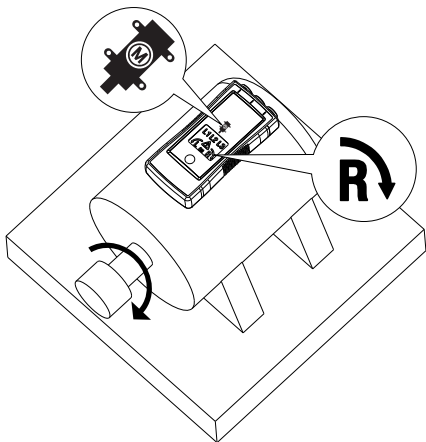

Figure 2: Motor Rotation
2. Position the PRM-6-EUR on the motor so it is parallel to the length of the motor shaft. The sensor of the tester should be in the center of the motor windings. The tester should be as close as possible to the motor. See Figure 2.